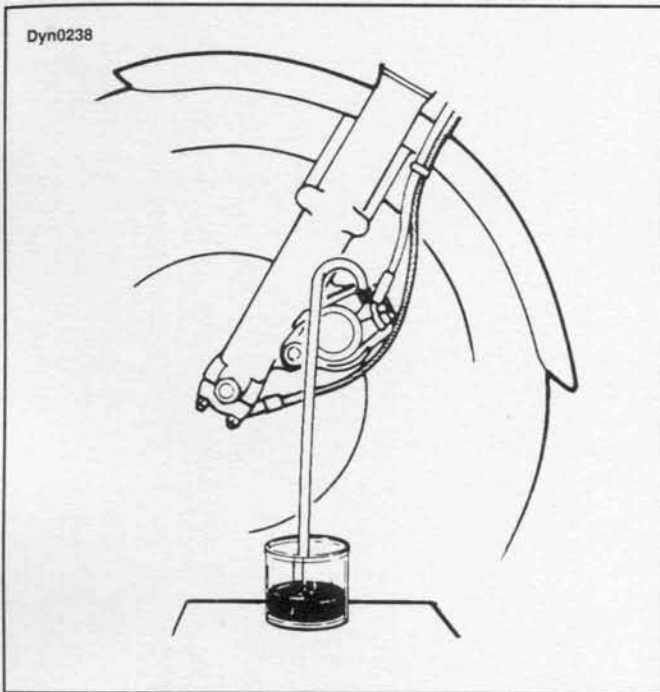

Figure 2-57. Bleeding Brakes
1. See Figure 2-57. Slip a length of appropriate size clear plastic tubing over wheel cylinder bleeder valve with other end in a clean container. Turn handlebars so that bleeder valve is nearly vertical.